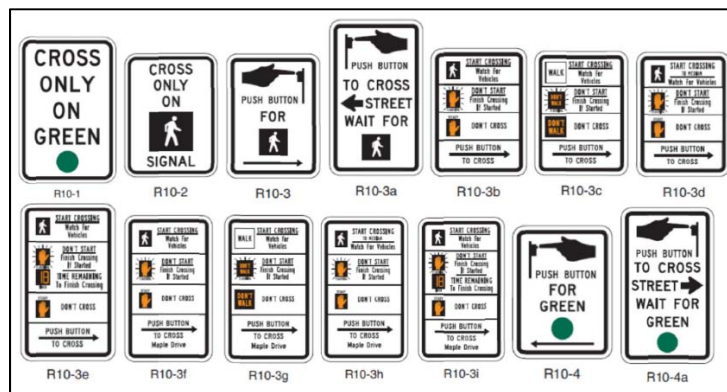

Figure 17 – Push Button Signs
- Pedestrian push button signs matches one of the designs in **Figure 17**. *MUTCD 2B.51*